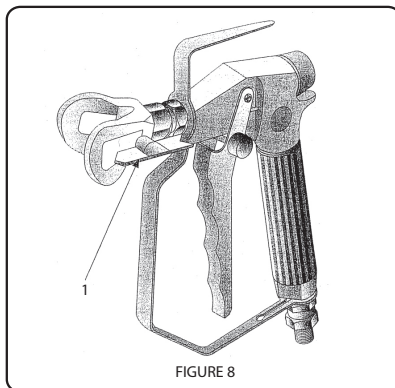

FIGURE 8
- 2 Turn the lever 180° (no. 1 - figure 8).
- 4 Engage the safety once more. Turn the lever (no. 1 - figure 8) again 180° to the spray position.